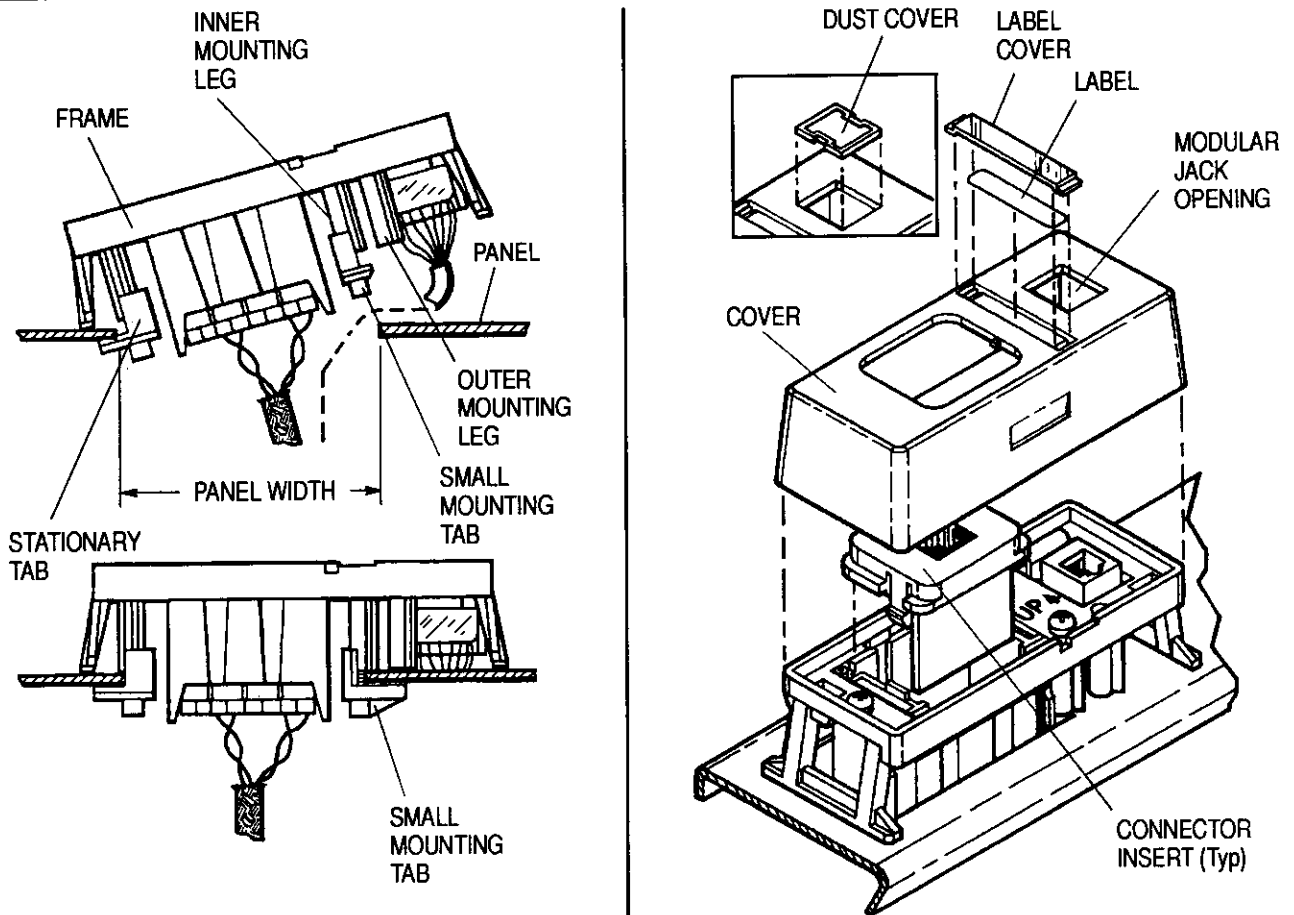

Figure 5
2. Mount frame to panel. Insert large stationary tab into panel cutout, then pivot frame onto panel. The small mounting tab should enter the panel cutout; when the screw is tightened, it should rotate and secure the frame to the panel. See Figure 5.